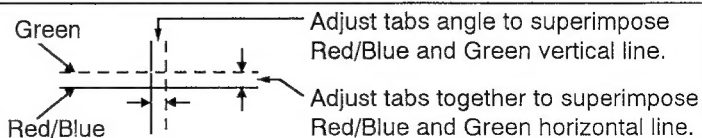

Figure 6 RED/BLUE AND GREEN LINE MOVEMENT
4. Adjust the 6 Pole Magnet 3 and 4 so that the Green line superimposed on the Red/Blue lines. This is the same procedure used in steps 2 and 3. Refer to figure 6.